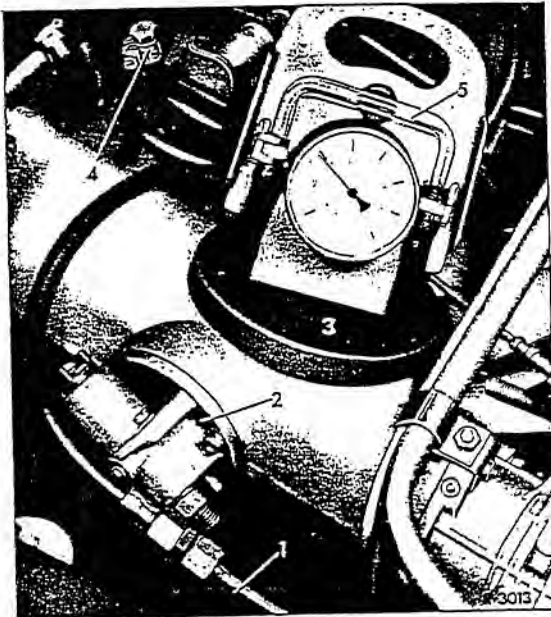

Fig. 00-14/2
1. Measure delivery pressure of fuel feed pump: disconnect fuel line (1) from starter valve (2), connect fuel feed pump tester (3) to fuel line (1) and plug the other end (4) of the tester hose (Fig. 00-14/2).